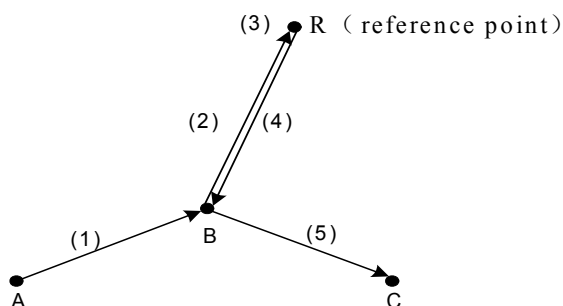

Fig. 4-3-1-1
- The action of block G28 can be divided as follows: (refer to Fig.4-3-1-1):
- (1) Positioning to the intermediate point of the specified axis from the current position (point A→point B) at a traverse speed.
- (2) Positioning to the reference point from the intermediate point (point B →point R) at a traverse speed.